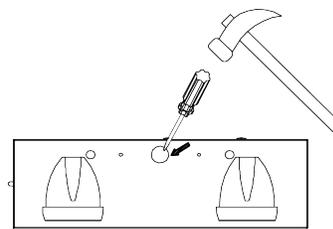
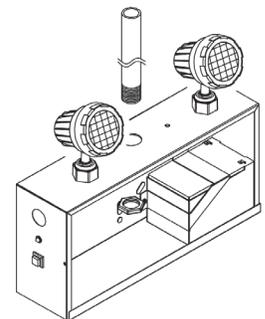

Fig. 3
Fig. 4
- b. **Pendant mounting:** locate the knockout on top of the battery unit (Fig. 3) and connect conduit (not supplied) according to applicable electrical codes (Fig. 4).